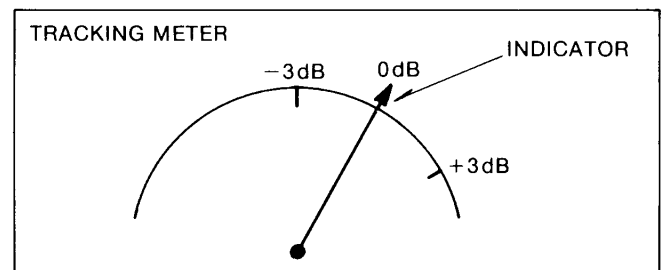

Figure E33
3. Adjust VR3008 so that the tracking meter indicates 0dB +/- 0.5dB as shown in Figure E33.